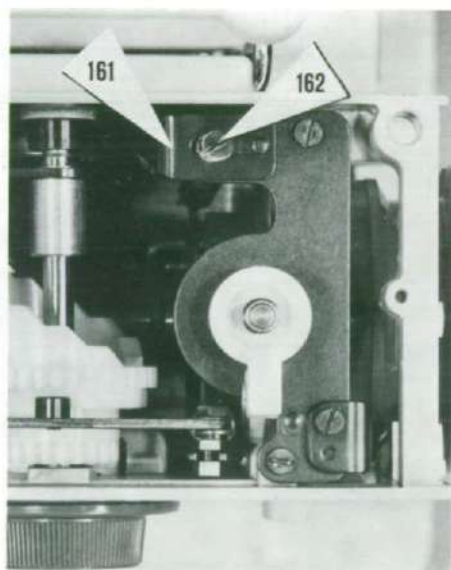

Fig. 11a
Loosen screw (162). The control spring (161) (see Fig. 11a) can then be displaced sideways until play can be observed at the stitch selector knob (14). Re-tighten screw (162).